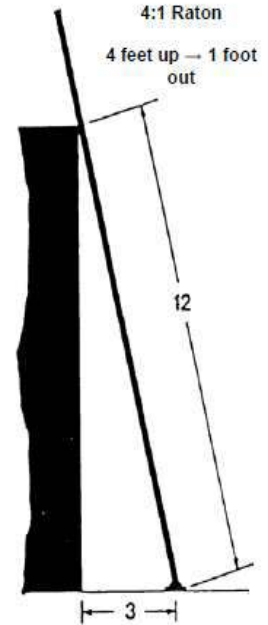

Figure 2
- j. Place the ladder's feet so that the horizontal distance between the feet and the top support is 1/4 of the working length of the ladder. The ladder should be leaning at a 75 degree angle from the ground (See Figure 2)